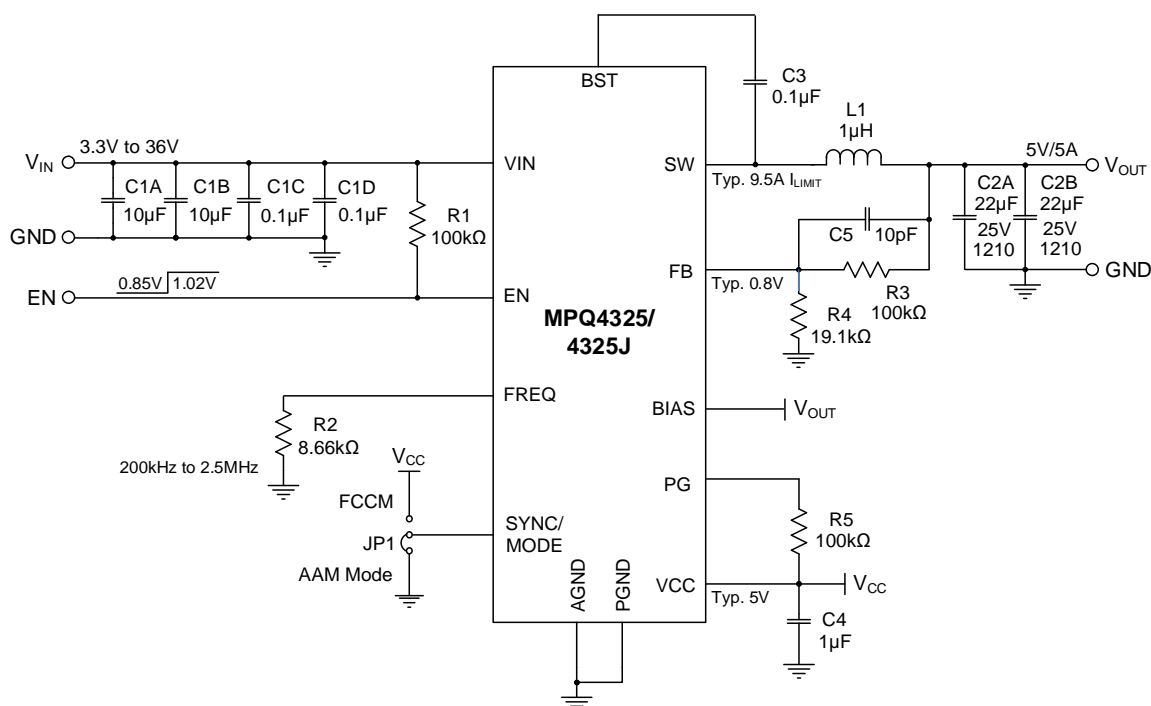

Figure 13: Typical Application Circuit ($V_{OUT} = 5V$, $f_{sw} = 2.2MHz$)
- 15) The recommended PCB layout is based on Figure 13 on page 45.